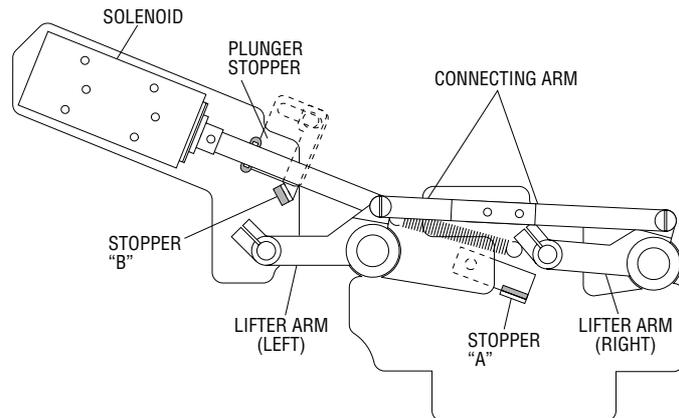

Figure 5-14
4. Loosen the four screws which attach the lifter solenoid to the deck plate, and move the solenoid as far toward the left side of the machine as it will go. Refer to **Figure 5-14**.